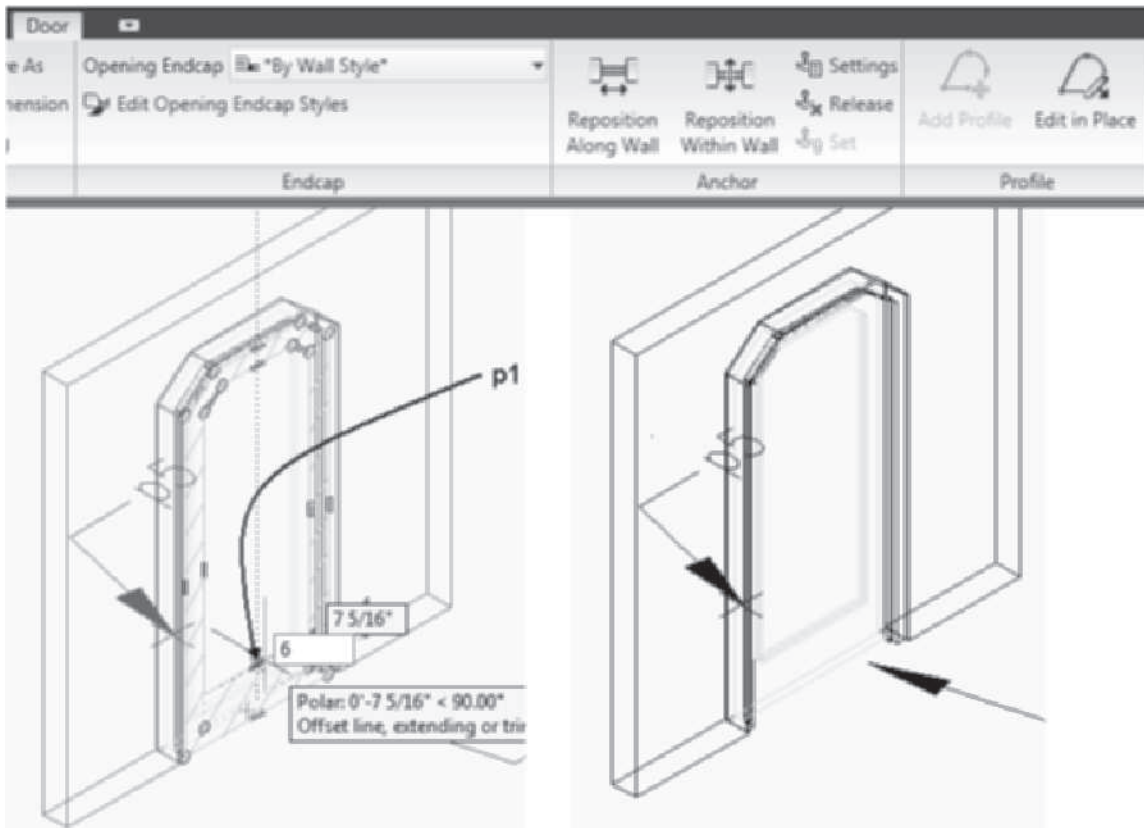

FIGURE 5.28 Profile of door modified in place
15. Select the door, and choose **Edit In Place** from the Profile panel of the contextual Door tab. Select **Yes** to convert the profile to its actual size, and dismiss the AutoCAD Architecture warning dialog box. Select the middle grip at the bottom edge of the inner panel at p1 as shown in Figure 5.28, move the cursor up (polar angle = 90), and type **6 [150]** in the dynamic dimension to stretch the segment up. Select **Finish** on the Edits panel of the **Edit In Place: Door** contextual tab to save the profile change.
16. The profile of the door is modified as shown at the right in Figure 5.28.